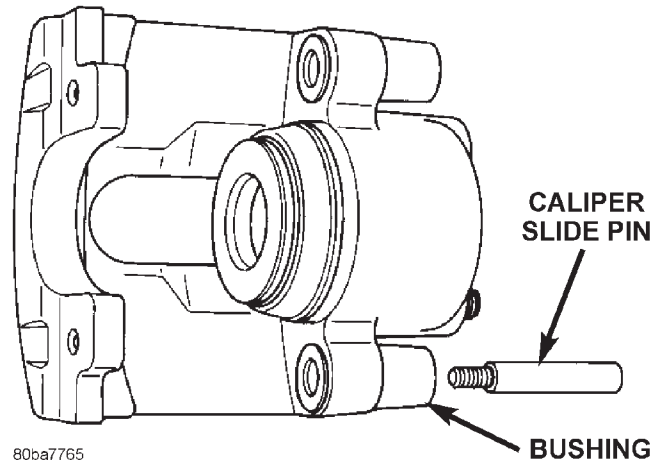

Fig. 81 Slide Pin And Bushing
- (7) Install caliper slide pin bushings into the caliper (Fig. 81).
- (8) Install caliper bleed screw.